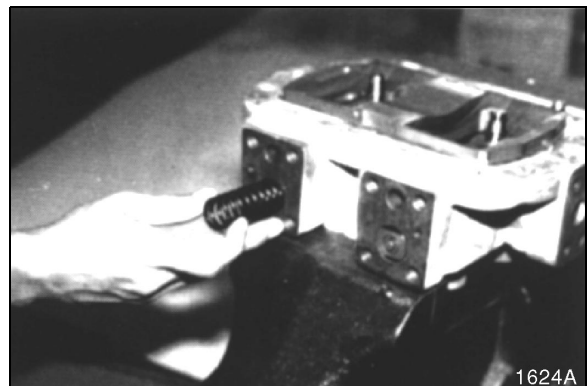

Figure 31
4. Remove spring, being careful not to remove shim at same time. See Figure 31.